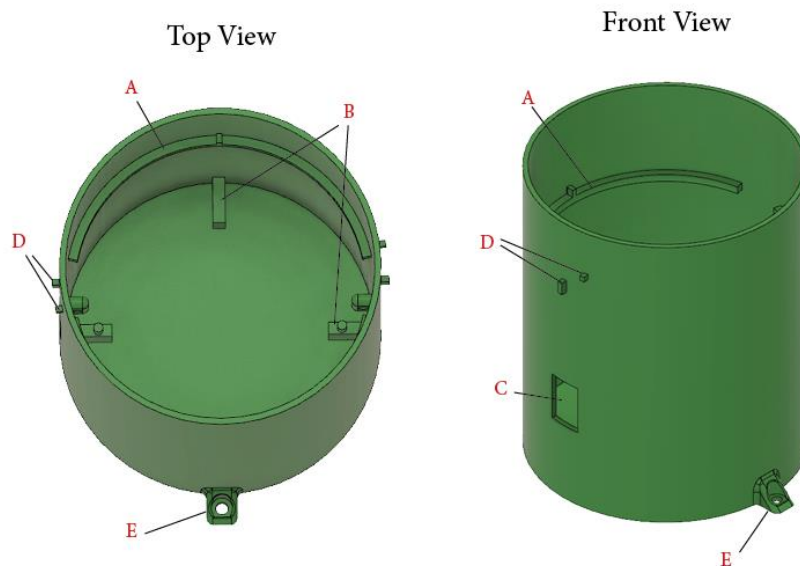

Figure 6
- At the bottom, four beams (Fig. 6, B) are in place to support the PCB so that it is elevated from the bottom. This was done to prevent the PCB being in contact with water when condensation is formed in the flower and runs down the sides. A slit between the wall and PCB is kept free so that the condensation can run to the bottom. To keep the PCB in place, two of the four supports have cylindrical protrusions that fit the holes of the PCB.
- The stem has two support beams (Fig. 6, A), one at each side to hold up the nectar reservoir case (see further). Two protrusions are provided which fit the notches in the reservoir case to prevent it from moving around. Keeping the right position is important for the well-functioning of the servo refilling system.
- In the side of the stem there is a hole (Fig. 6, C) to fit in the on/off switch that can be clipped in.
- Protrusions for the twist-and-lock system (Fig. 6, D) to fit the background plane on top of the stem which keeps the components from disconnecting easily.
- The mounting feet (Fig. 6, E) are constructed to fix the robotic flower on the substrate to keep it from tipping over if necessary. For example, the flower could be anchored in the ground using a small picket, or it could be screwed onto a platform.